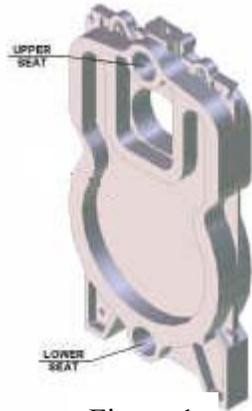

Figure 1
1. Place the rear boiler element vertical. Clean and inspect the twin-taper nipple seats and the connection surface. Figure 1.